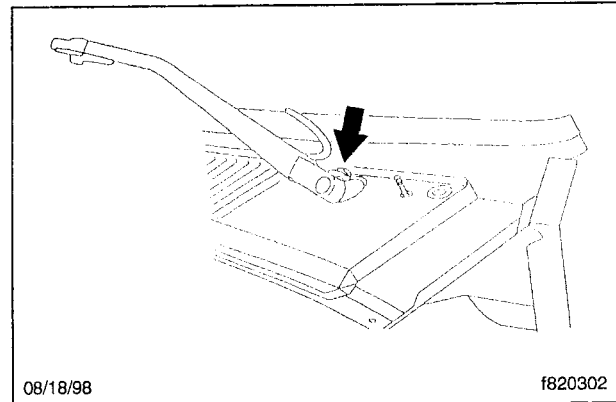

Fig. 3, Pivot-Arm Locking Lever
- 6.3 Pull the locking lever away from the windshield-wiper pivot arm. See **Fig. 3**.
- 14.2 Close the locking lever on the pivot arm. See **Fig. 3**.